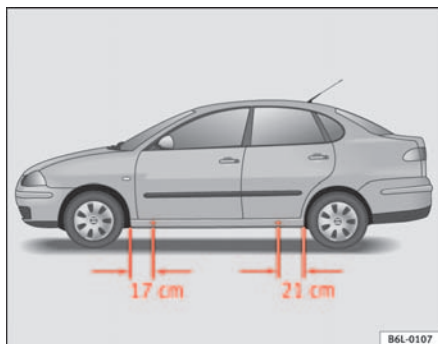

Fig. 132 The jacking points
- Locate the jacking point under the door sill closest to the wheel being changed ⇒ fig. 132.
Recesses at the front and rear of the door sills mark the jacking points ⇒ fig. 132. A position has been made for each wheel. Do not fit the jack anywhere else.